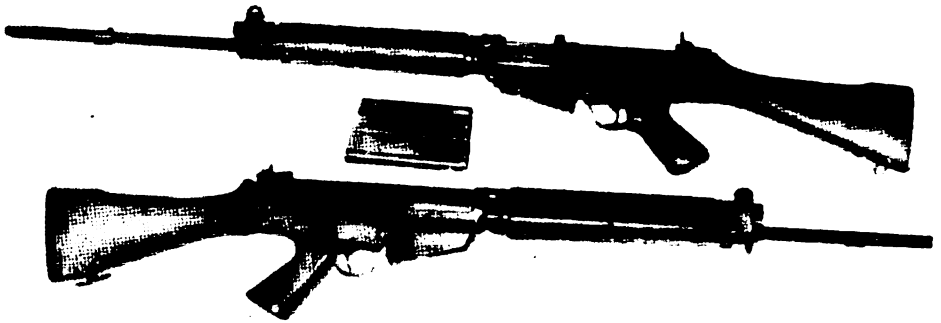

Figure 2
2. Identify the FN FAL (fig. 2)